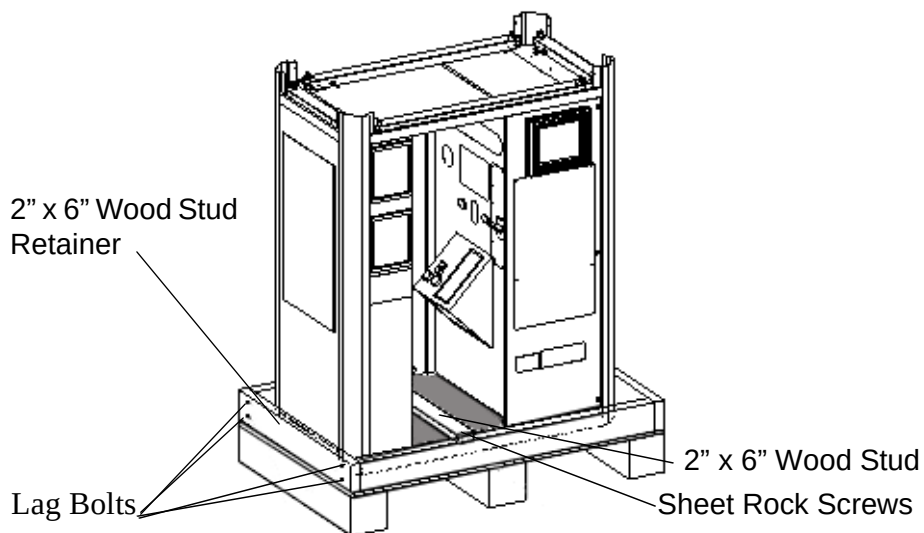

Figure 5. Portrait Studio on Pallet
2. Remove the two lag bolts from the pallet end and remove the wood stud retainer. Figure 5 shows the location of the lag bolts and wood stud retainer.